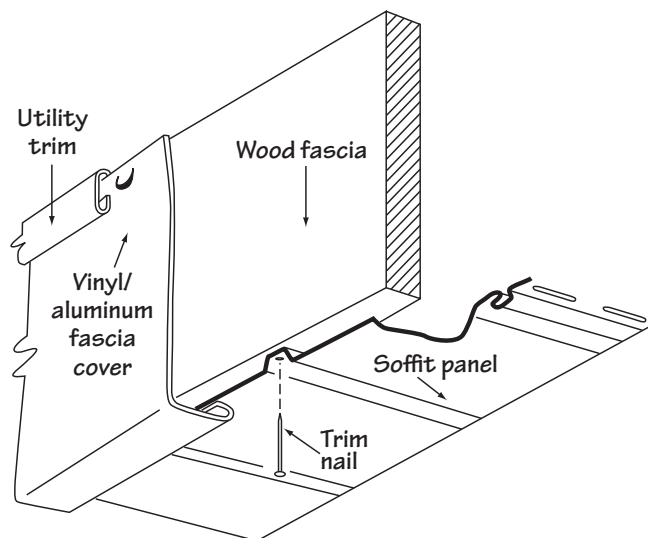

Figure 68.
3. Insert the panel into the channel on the wall, then into the channel at the fascia board (Fig. 68).
NOTE: When nailing to the fascia board, use trim nails. Drive the nail through the nail flange and "V"-shaped groove within the soffit panel (Fig. 68). This is one of the rare instances that face-nailing is permissible. Once a soffit panel is face-nailed, it will expand only in one direction, in this case, toward the receiving channel. Be sure to leave space for the full expansion allowance in the receiving channel.